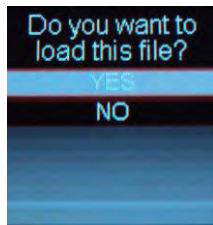
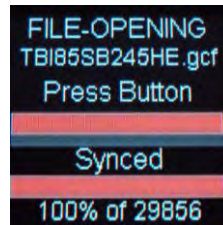

Figure 14
Figure 15
15. If you want to load this file to the ECU, select "YES" (Fig 14). If for some reason you want to exit out, select "NO". Once you select "YES", the file will load. After loading is complete, press the button (Fig 15).